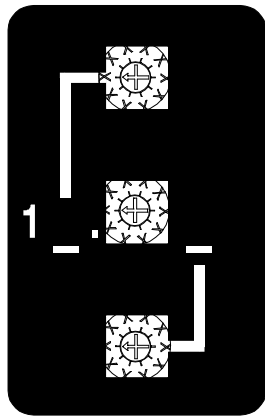

Figure 8.1
the batteries to the voltage specified on the switches. To set the switches, use a small screwdriver and turn the switch so that the arrowhead on the slot is pointing to the desired number. Set the switches in the following manner: If the desired battery voltage is 13.38 volts, set the top switch to 3, the middle switch to 3, and the bottom switch to 8 (see the figure 8.1). This will provide you with the proper charging voltage. The tens digit is always a one (1) and cannot be changed. **BE SURE EACH SWITCH IS SET ON A NUMBER AND NOT BETWEEN NUMBERS.** If a switch is set between numbers, the output current will go to zero and the yellow charging LED will flash.